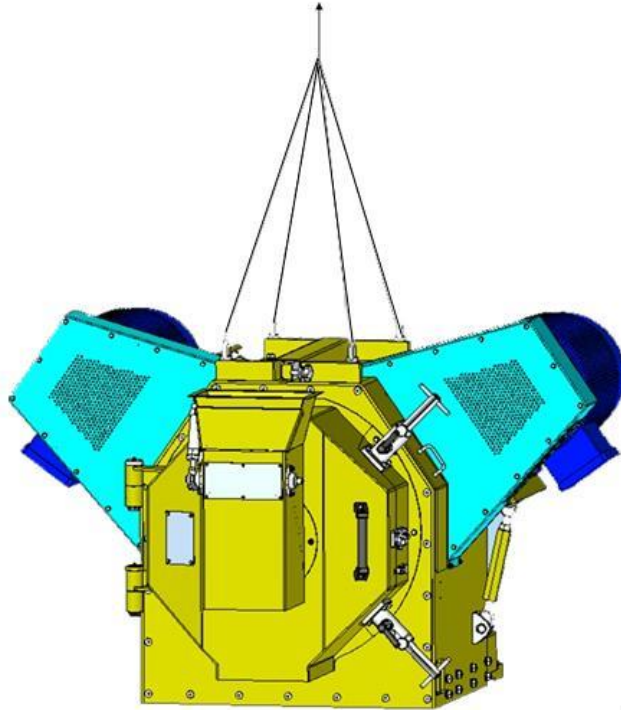

Fig.4-1 Hoisting drawing of pellet bloc
(1) Hoisting
- ① Hoisting device on the machine body shall be correctly used when hoisting (refer to the Fig.4-1).
- ② The hoisting rope should bear the total weight of the pellet mill, including the conditioner and the feeder.